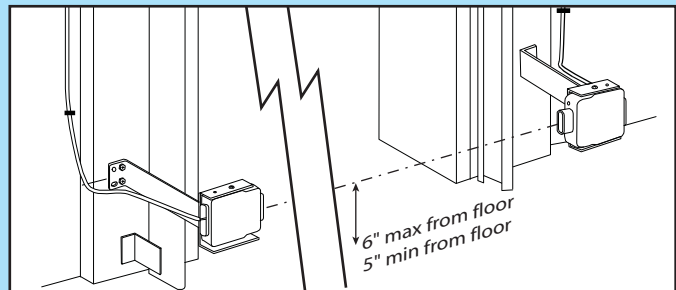

FIG. 5-4 Check Safe-T-Beam® alignment.
Check Safe-T-Beam® alignment (Fig. 5-4).
- Insure that tops of lenses are between 5" - 6" above the floor (Fig. 5-4). The brackets are flexible, and can be adjusted slightly if needed.